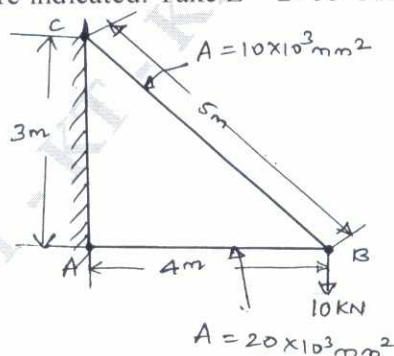

Fig.Q10
- 10 Using stiffness method determine the displacements at the joint 'B' of a pin-jointed frame shown in Fig.Q10. Also calculate the forces in the members AB and BC due to given loading. The values of area of cross-section are indicated. Take $E = 2 \times 10^5 \text{ N/mm}^2$. (16 Marks)